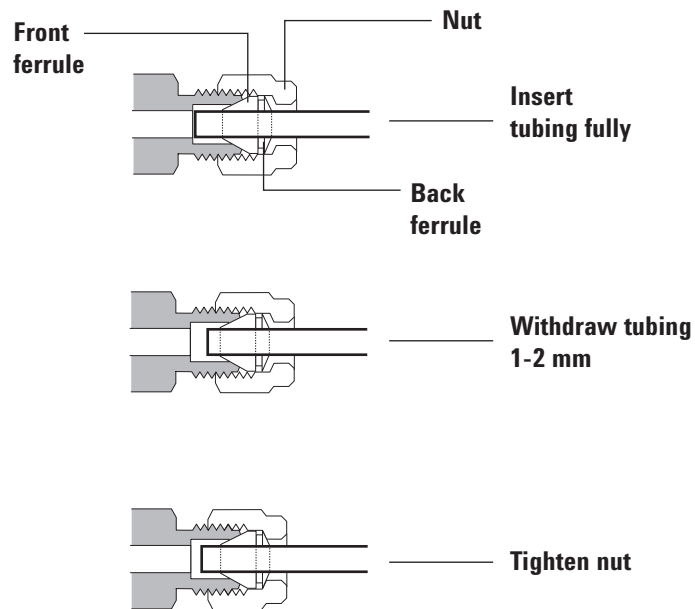

Figure 17. Insert the tubing
- 4 Push the tube fully into the plug, then withdraw it approximately 1 to 2 mm. See **Figure 17**.